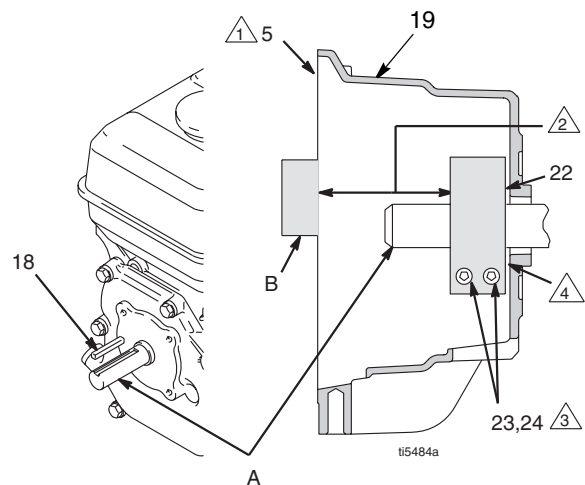

FIG. 10
- FIG. 10. Loosen two screws (24) on clamp (22),
- Push screwdriver into slot in clamp (22) and remove clamp.
- FIG. 10. Install engine shaft key (18)
- Tap clamp (22) onto engine shaft (A). Maintain dimension shown note 2. Chamfer must face engine.
- Check dimension: Place rigid, straight steel bar (B) across face of clutch housing (19). Use accurate measuring device to measure distance between bar and face of clamp. Adjust clamp as necessary. Torque two screws (24) to 125 ± 10 in-lb (14 ± 1.1 N-m)
- Install armature (25) on engine drive shaft.
- Install four screws (23) and lock washers (24) with torque of 125 in-lb.